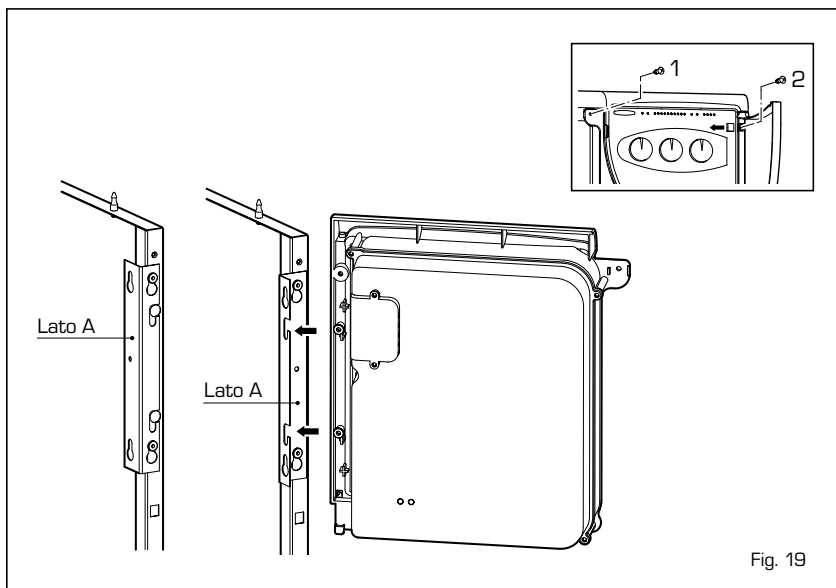

Fig. 19
4.7.1 Disassembly the control panel and skirt cover lid (fig. 19)